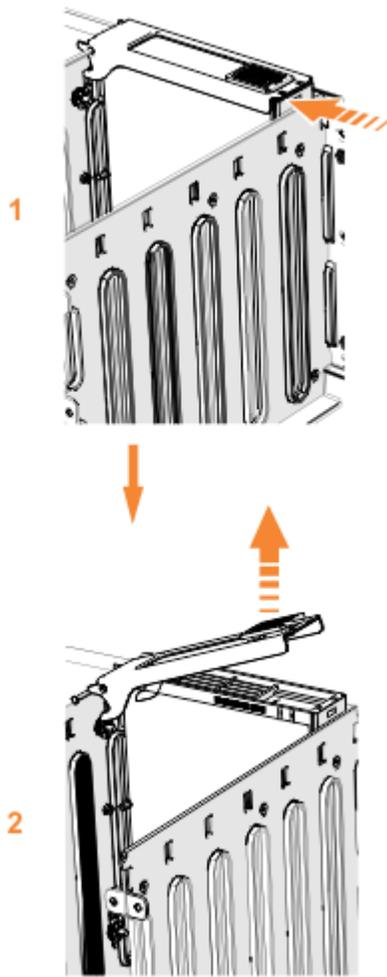

Figure 139. Remove the drive assembly
5. Slide the release latch forward (1), as shown in Figure 139 on page 200.
6. Lift the handle (2) to unlock the drive carrier from the partition, as shown in Figure 139 on page 200. Ensure the toe on the bottom of the latch is fully disengaged.